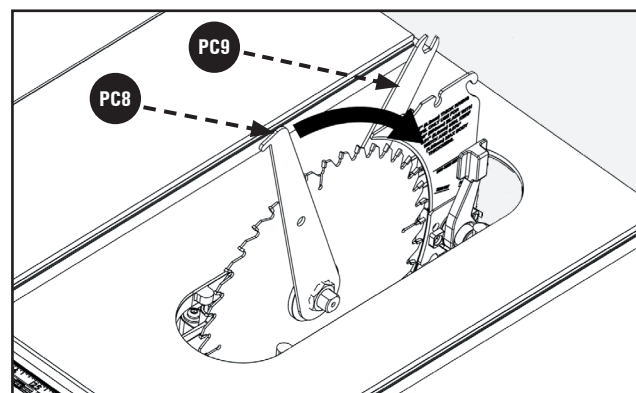

FIGURE 9
7. Tighten Nut with Blade Wrenches (PC8) and (PC9). Open End Wrench will fit on the Arbor Shaft between the Inner Flange Washer (D) and the Motor Assembly (if necessary, turn Arbor Shaft to align Flats on the Arbor Shaft to the Wrench). Closed End Wrench will fit on the Nut. See Figure 9.